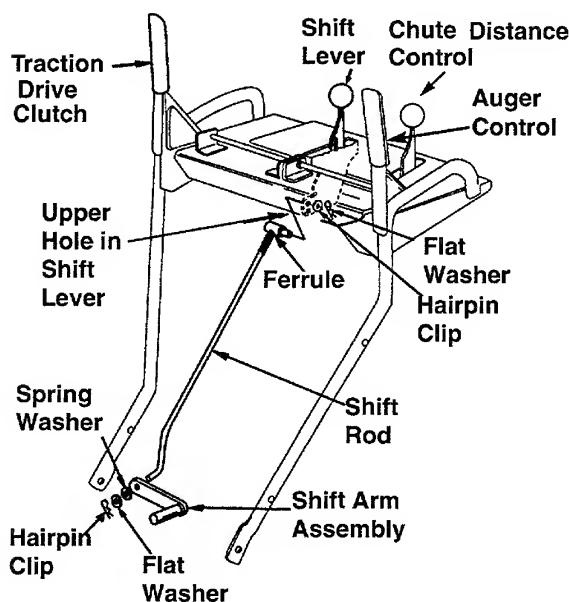

Figure 5
- Place the shift lever in the sixth (6) speed position.
- Place the bent end of the shift rod into the hole in the shift arm assembly. See Figure 5. Secure with 5/16 flat washer and hairpin clip from the hardware pack (group D on page 6).
- Secure the ferrule to the shift lever with another 5/16 flat washer and hairpin clip from group D of the hardware pack. See Figure 5.